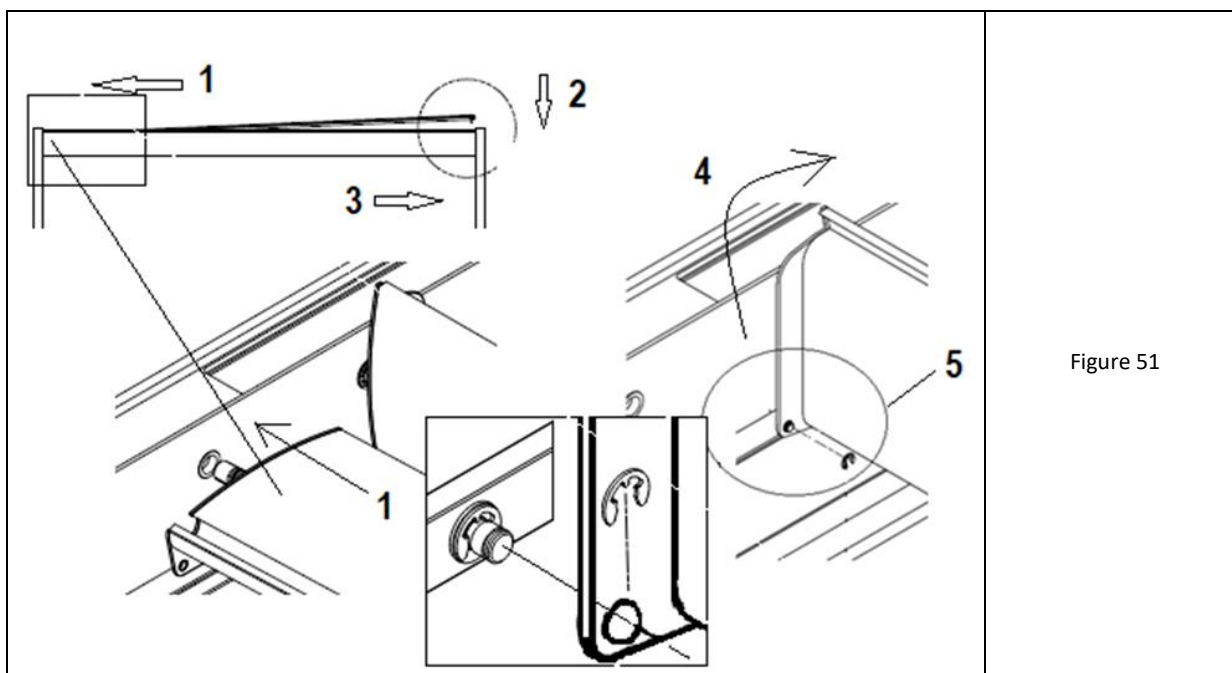

Figure 51
18. Install the next blades starting from the places already installed towards the ends of the pergola. Set the blade horizontally over the beam, tilt it and insert it with the shaft from the drive side into the hole in the beam. When pushed in as far as possible, lower the opposite end and insert it into the beam as well (steps 1 to 3 in Fig. 51).
19. Insert the pin in the rod from the beam side (fig. 51). When pressing in, be careful not to push out the slip rings.
20. Move the blade to the drive beam and turn it vertically to place the rod pin in the hole in the lower corner of the drive end cap. Check the presence of the slip ring in the end cap and do not push it out. Secure the visible end of the pin with a small snap-ring exactly in the groove of the pin (fig. 51) - use the dedicated tool.